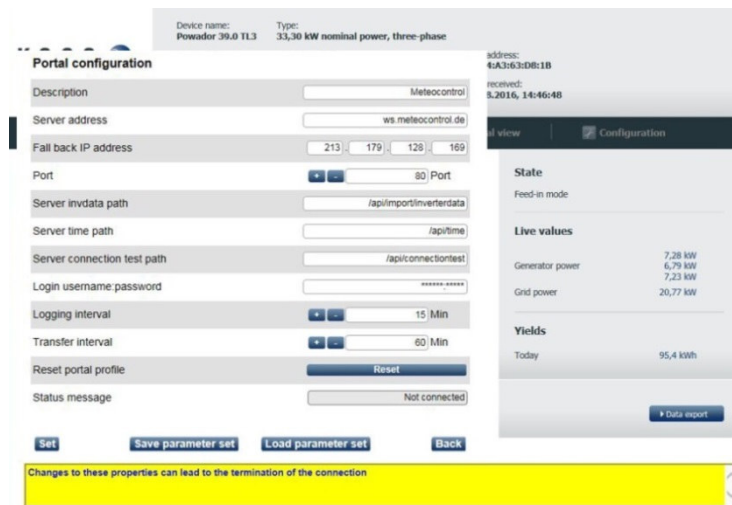

Figure 20. Configuring the portal
- ✓ Carry out the configuration of the portal profile using the "Configuration" button (see Figure 20).